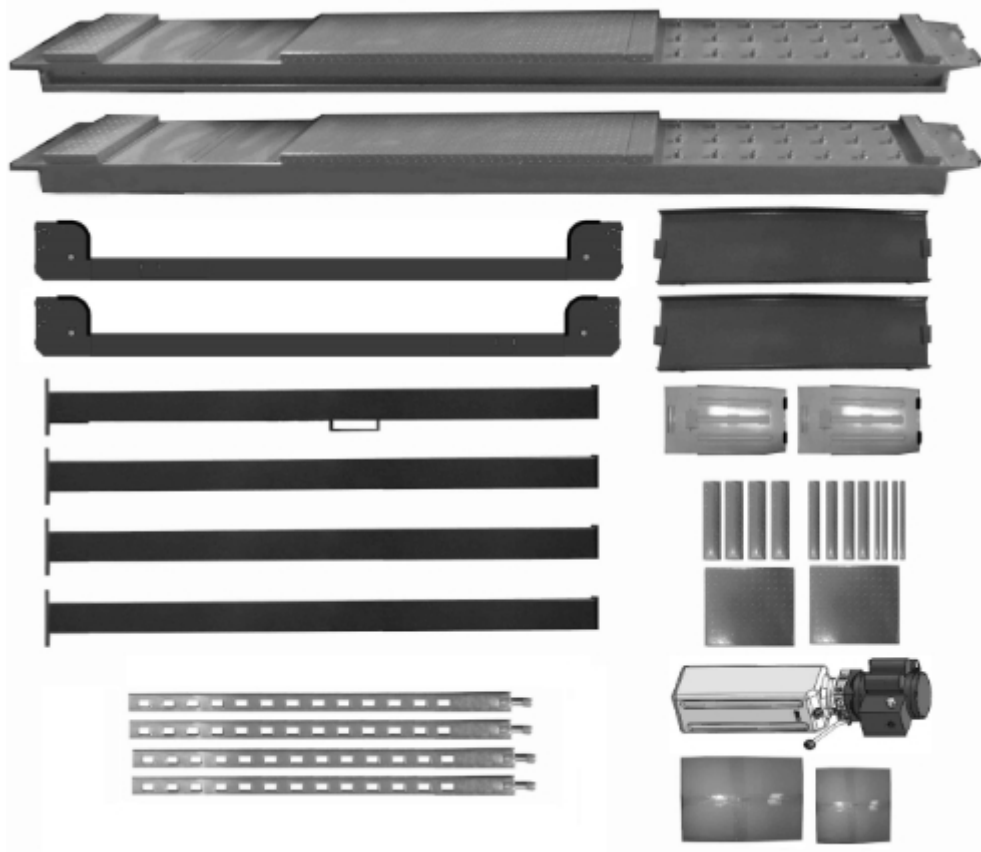

Fig.10
6. Move aside the parts and check the parts according to the shipment parts list (See Fig. 9, Fig. 10).